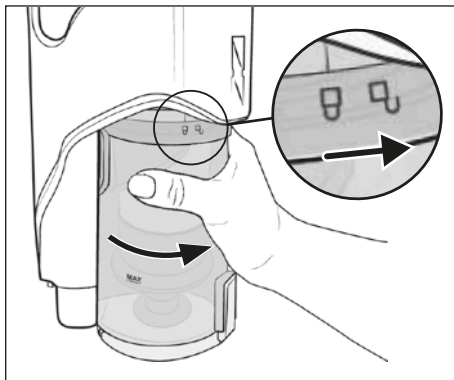

Fig. 23
- 8) Put the dust container 7 back into the appliance and turn it in the direction of the symbol  (close) until it is firmly seated in the appliance (see Fig. 23).